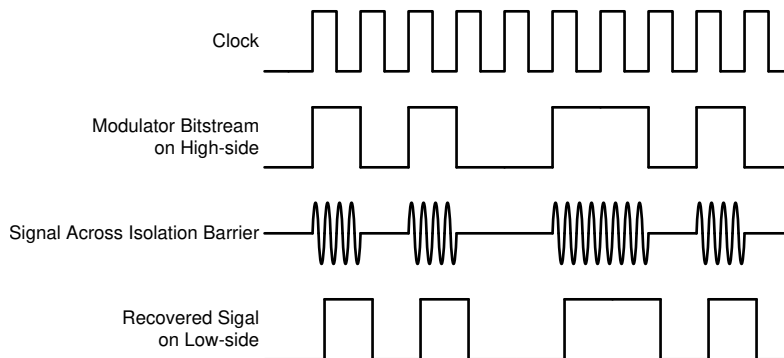

Figure 7-3. OOK-Based Modulation Scheme
The AMC3306M05 uses an on-off keying (OOK) modulation scheme, as shown in Figure 7-3, to transmit the modulator output bitstream across the SiO₂-based isolation barrier. The transmit driver (TX) shown in the *Functional Block Diagram* transmits an internally generated, high-frequency carrier across the isolation barrier to represent a digital *one* and does not send a signal to represent a digital *zero*. The nominal frequency of the carrier used inside the AMC3306M05 is 480 MHz.